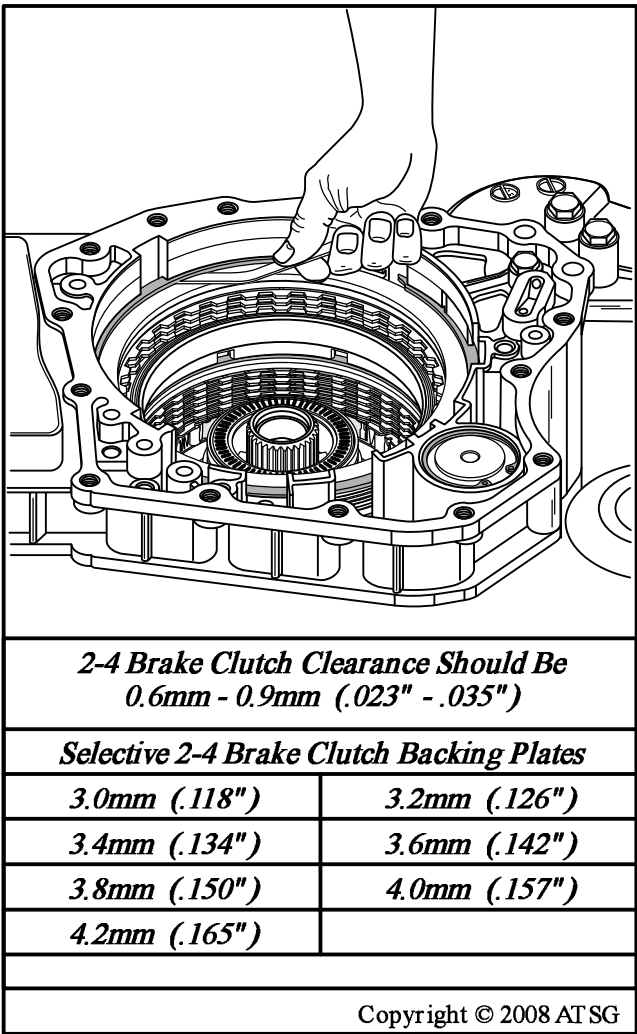

Figure 196
19. Measure the 2-4 brake clutch clearance using a feeler gage between the selective pressure plate and snap ring, as shown in Figure 196.
20. Change selective pressure plate as necessary using the chart in Figure 196.